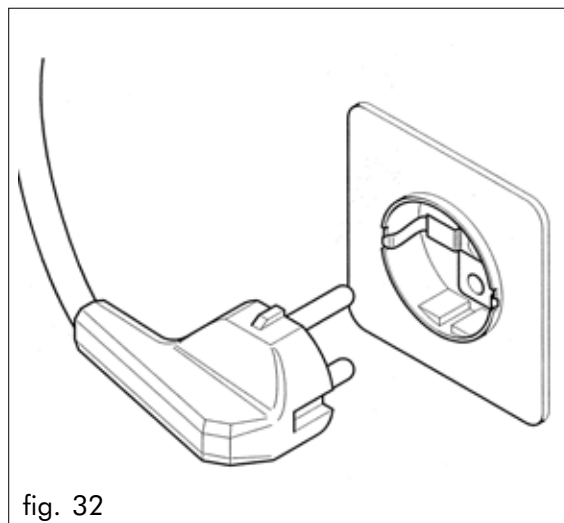

fig. 32
- The distributor is equipped with a power supply cable H05VV-F 3x1.5 mm², with SCHUCO plug (fig.32).